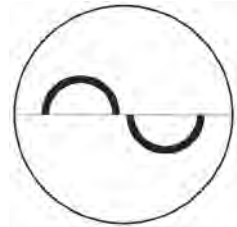

Figure IU-09 Circles
4. Adjust the slit lamp's elevation and lateral position with the joystick until the flattened area is seen as two semi-circles of equal size in the middle of the field of view. Refer to Figure IU-09.